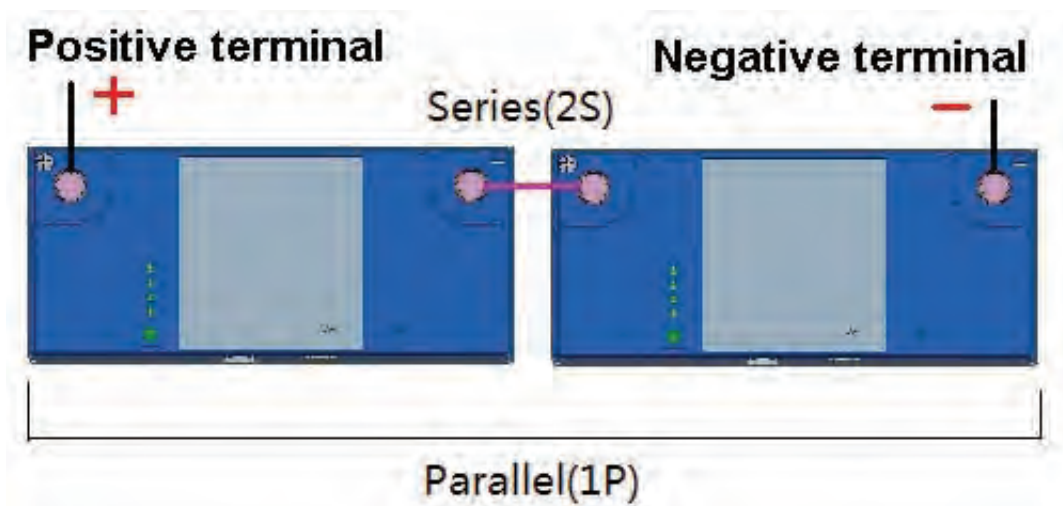

Figure 4 Installation of batteries in series (2S1P configuration)
1. Add additional jumpers to complete the series string as depicted in figure 4.